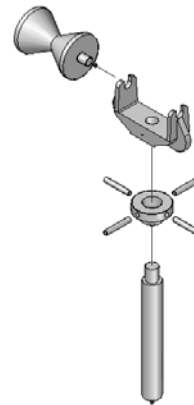

Figure 12-30 The Adjusting Nut Handle after dragging all instances
7. Similarly, drag all instances of the Adjusting Nut Handle one-by-one and place them, as shown in Figure 12-30.